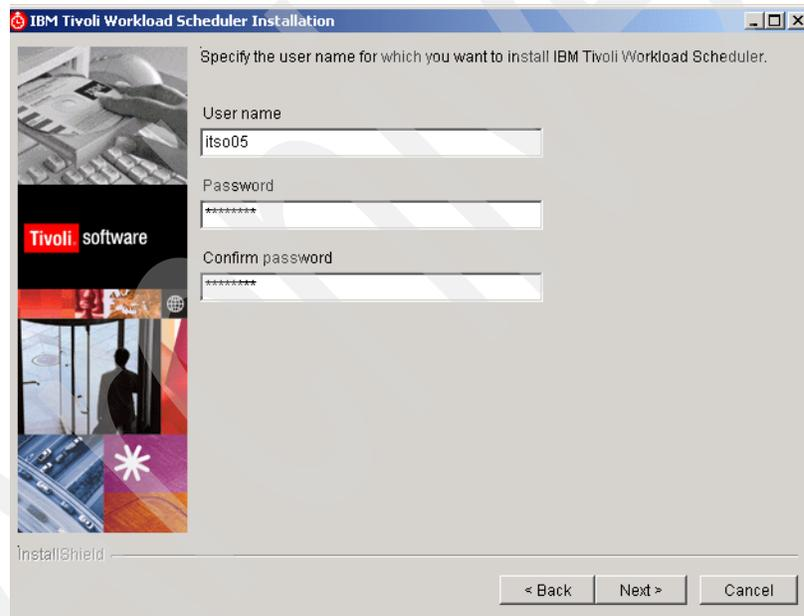

Figure 15-22 User name and password window
5. Designate your user name and password screen; spaces are not allowed in either (Figure 15-22). On Windows systems, if this user account does not already exist, it is automatically created by the installation program. If you specify a domain user, specify the name as *domain_name\user_name*. If you specify a local user with the same name as a domain user, the local user must first be created manually by an Administrator and then specified as *system_name\user_name*.